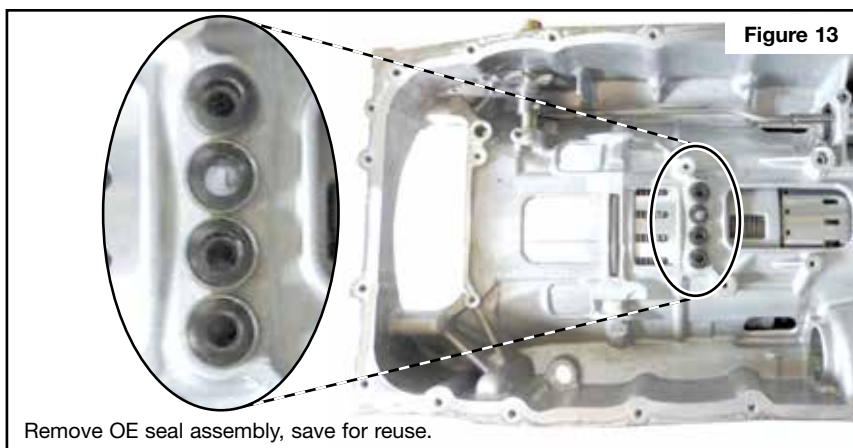

Figure 13
- Remove OE center support seal assembly from case and set aside for reuse (Figure 13).